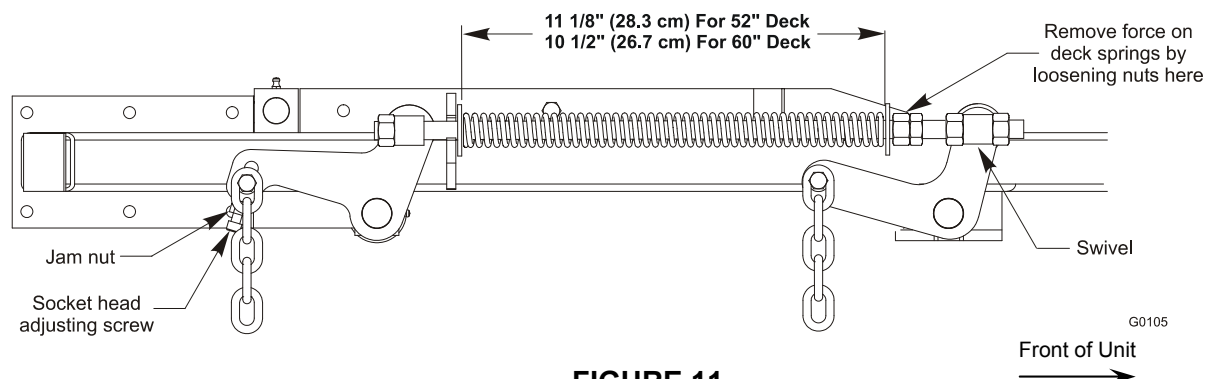

FIGURE 11
- e) Raise the deck to the 4.5" (11.4 height position (also transport position) and take all force off of the two large deck lift springs by loosening the nuts at the front of each spring. See Figure 11.
- g) Place a 3/4" (19 mm) thick block of wood under each of the two (2) rear anti-scalp roller brackets and place one under **one of the front center** anti-scalp roller brackets.
- h) Loosen the two (2) top chain bolts in slots in the rear deck lift arms. Loosen jam nuts and back off the socket head adjusting screws on the bottom of the arms until the chains are just loose. Turn the socket head adjusting screws in until slack is taken out of each chain. Tighten the jam nuts. Tighten the chain bolts in the deck lift arms making sure they don't move while tightening.
- i) Loosen the four (4) nuts which secure the front swivels (two per side) until the front chains are loose and front of deck is supported by the 3/4" (19 mm) block. Do not loosen the front chain hardware.
- I) Raise deck lift lever to the 4.5" (11.4 cm) cutting height position See Figure 9. Adjust spring compression until proper distance is obtained between the two large washers (See Figure 11). Adjustment is made by turning the nut at the front of each spring (clockwise will shorten the spring, counter-clockwise will lengthen the spring). Lock in position with jam nuts.